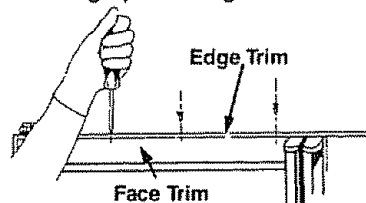
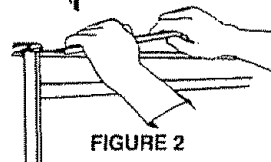

FIGURE 1
FIGURE 2
1. REMOVE THE FREEZER TOP DOOR EDGE TRIM PIECE. Remove the screws holding the trim to the top of the door. See Figure 1. Remove the top door edge trim by sliding the top door edge trim to the right and lifting up. See Figure 2.